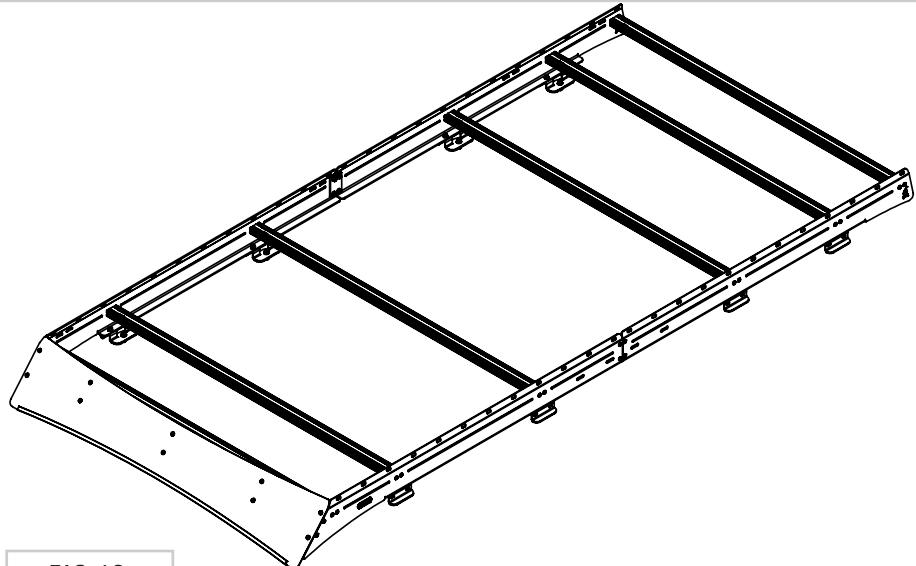

FIG 12
4.1 Layout Crossbar Locations: Position the crossbars in your desired locations, loosely threading in the **1/4-20 Flange Head Screws** to hold in place (FIG 12+13).